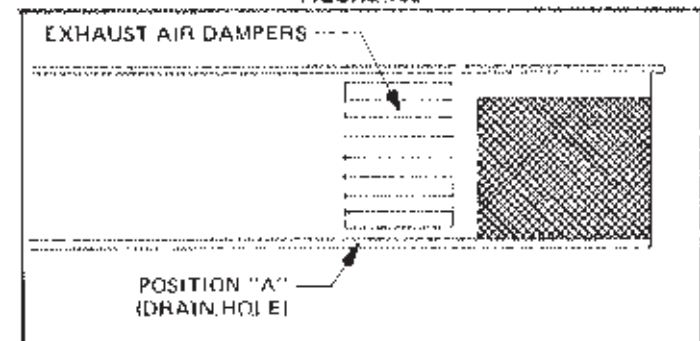

FIGURE 106
- 2 - Adjust fresh air/return air dampers to the 100% return air position and measure static pressure at position "A" on unit. See Figure 106. This static pressure must be 0" w.c. to 1.0-1.0" w.c. (0 mm w.c. to 2.54 mm w.c.).